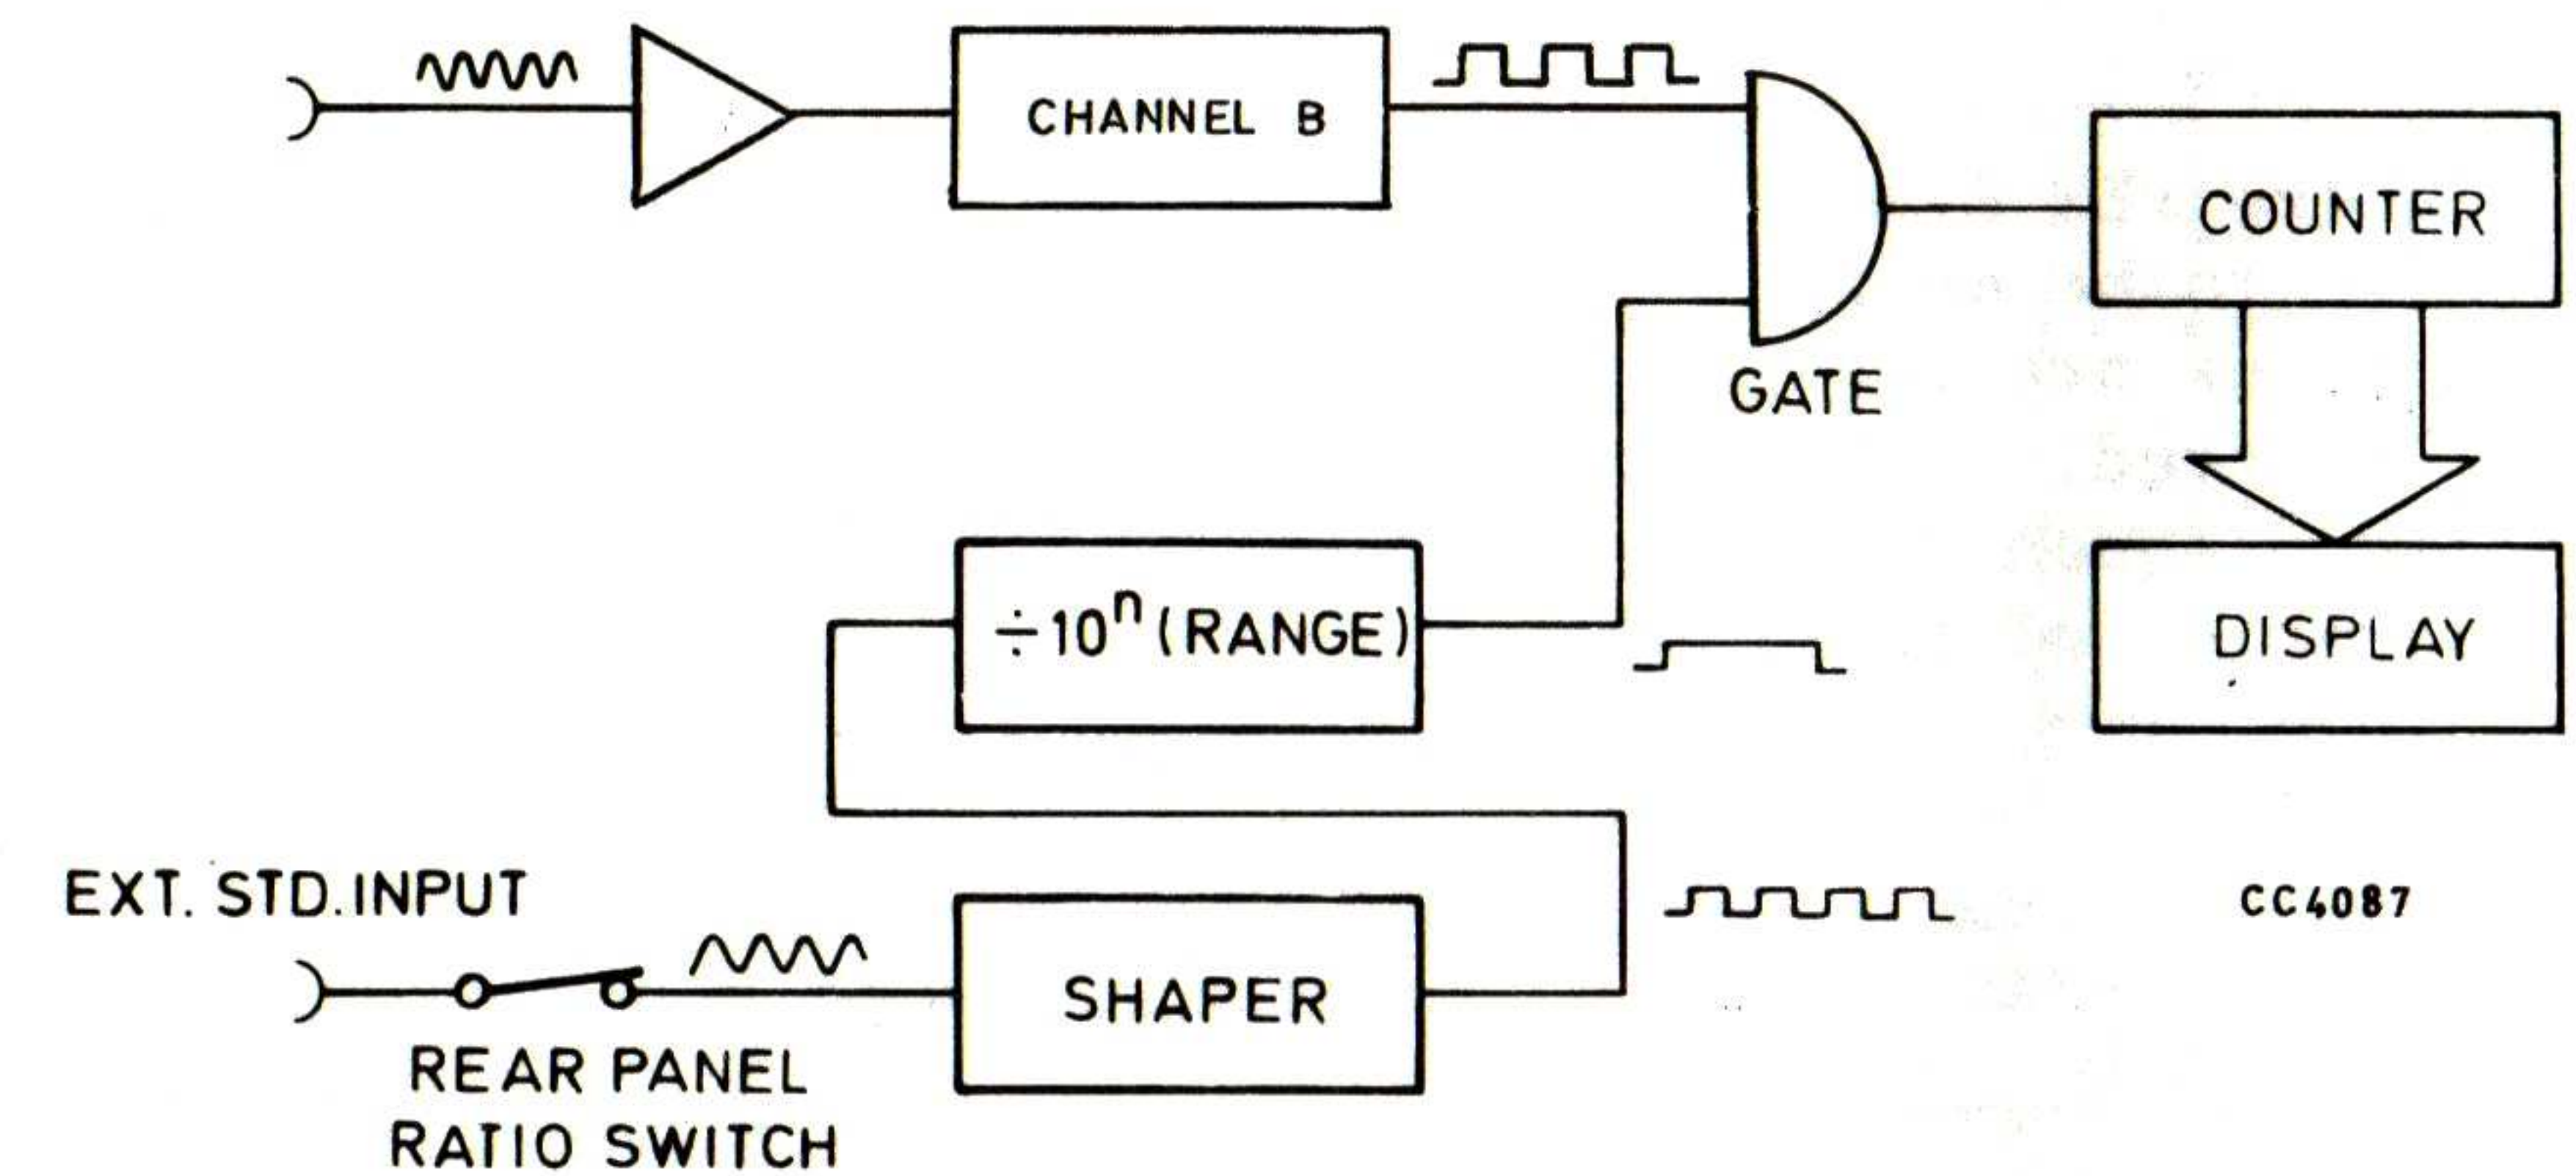

Fig. 3 Frequency ratio mode
4. When frequency ratio measurements are made, see Fig. 3, the rear panel input signal replaces the frequency standard so that the counter display reads the ratio between the two input signals.